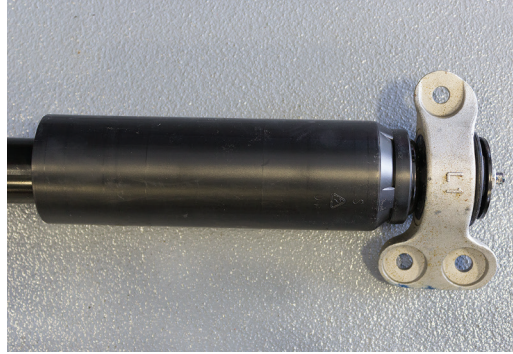
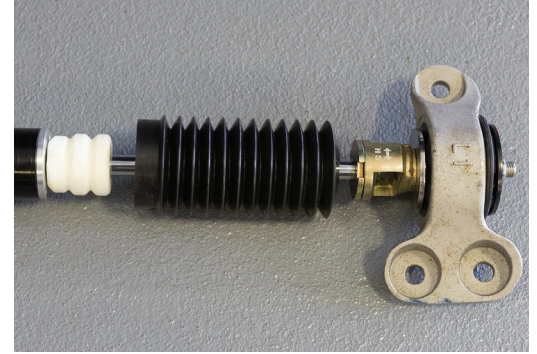

fig. D.9
fig. D.10
4. Remove the upper mount and rebound washer from the OEM shock (Fig. D.9). The large washer that comes with the shock goes on the mount first, followed by the upper mount, rebound washer and the new Air Lift Performance shock rod nut (Fig. D.10). Torque the shock rod nut to 20Nm (15 lb.-ft.).